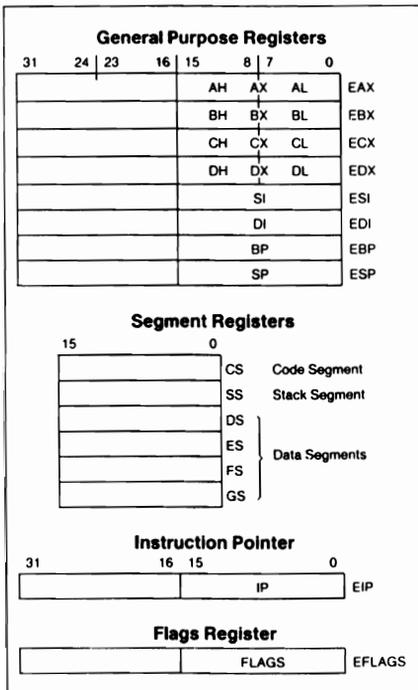

Figure 2.1. Base Architecture Registers
Figure 2.1 shows the 486 microprocessor base architecture registers. The contents of these registers are task-specific and are automatically loaded with a new context upon a task switch operation.
The eight 32-bit general purpose registers are shown in Figure 2.1. These registers hold data or address quantities. The general purpose registers can support data operands of 1, 8, 16 and 32 bits, and bit fields of 1 to 32 bits. Address operands of 16 and 32 bits are supported. The 32-bit registers are named EAX, EBX, ECX, EDX, ESI, EDI, EBP and ESP.
The instruction pointer, shown in Figure 2.1, is a 32-bit register named EIP. EIP holds the offset of the next instruction to be executed. The offset is always relative to the base of the code segment (CS). The lower 16 bits (bits 0-15) of the EIP contain the 16-bit instruction pointer named IP, which is used for 16-bit addressing.